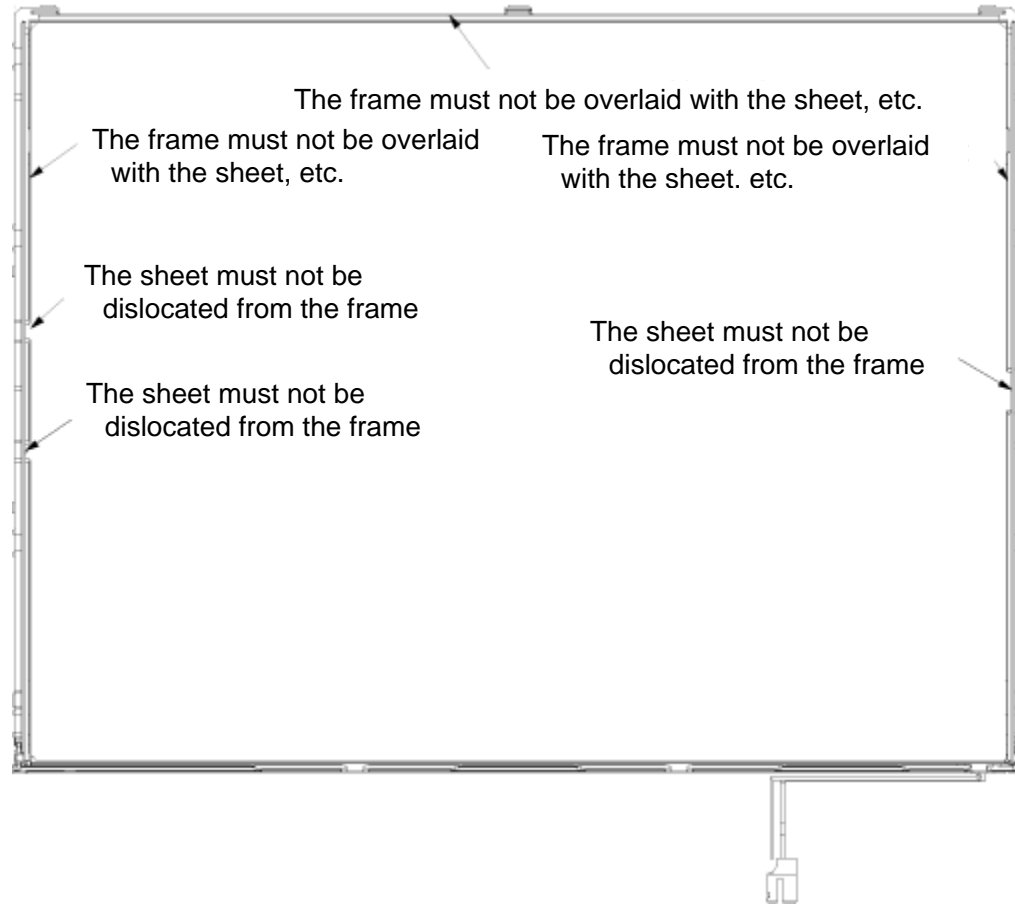

Figure 4-58 Replacing 14.1 Inch TMD fluorescent lamp (SXGA+) (6)
1. Check the following items according to Figure 4-58.